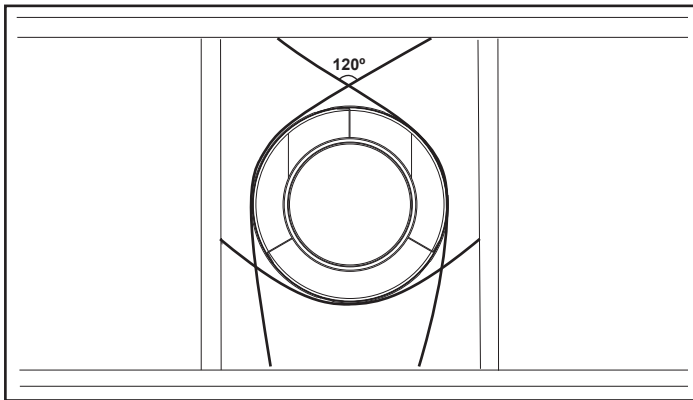

Figure 7.5 - Securing Vertical Pipe Sections
- Vent supports or plumbers strap (spaced 120° apart) may be used to support vent sections, Figures 7.5 and 7.6.